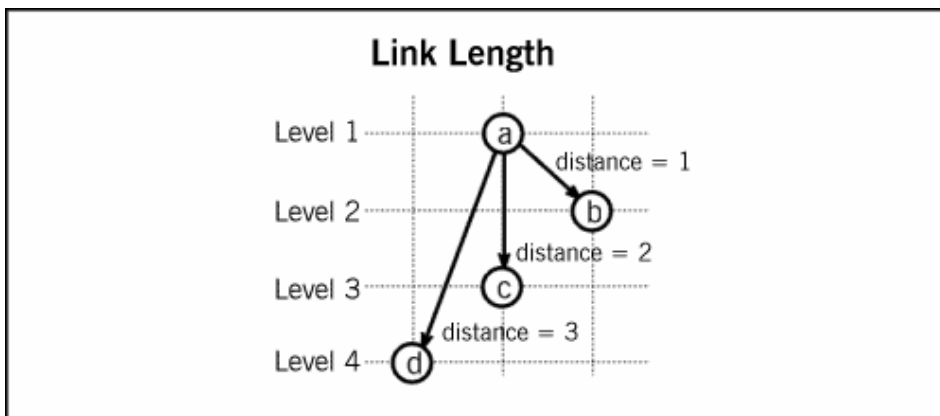

Figure 143: Schematic representation - Level length
- Link length:** By providing an integer value n for this parameter you can define how many layers ($n-1$) should be spanned by an instance of this class (see fig. 143, p. 174). If instances of different relation classes meet at an object, the maximum number of layers is calculated.